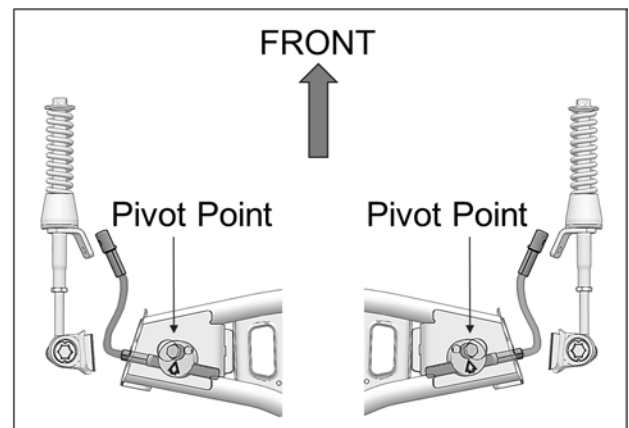

Fig. 22
13. Make sure aluminum disk pivot point is installed in front of steering limiter cable. See Fig. 22